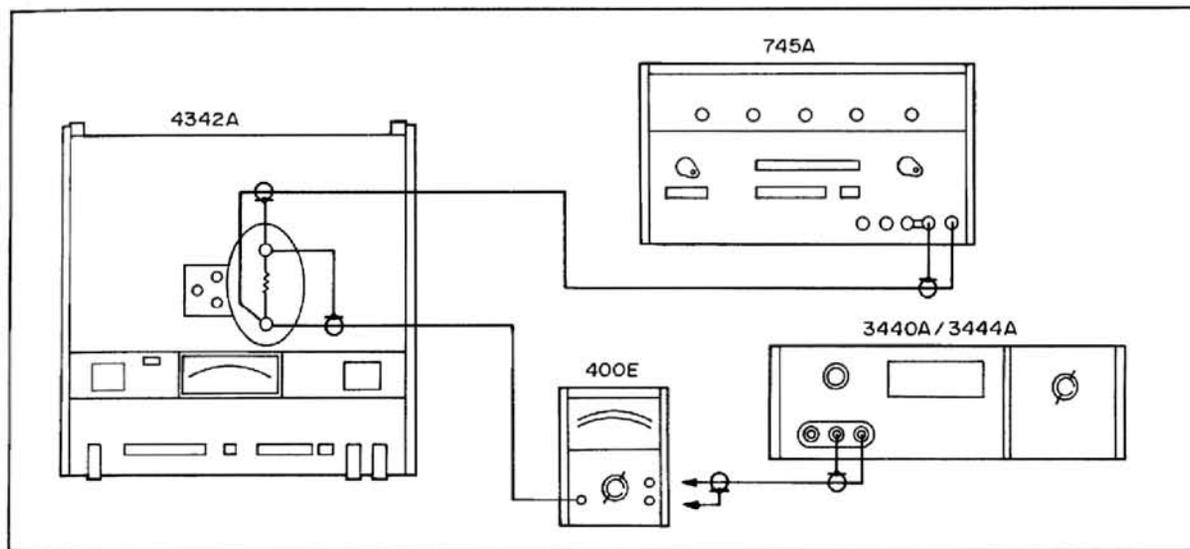

Figure 5-7. Voltmeter Adjustment
- Connect the Oscillator as shown in Figure 5-7.
- Reconnect oscillator per Figure 5-7. Set oscillator output for a full scale reading on the 4342A meter.